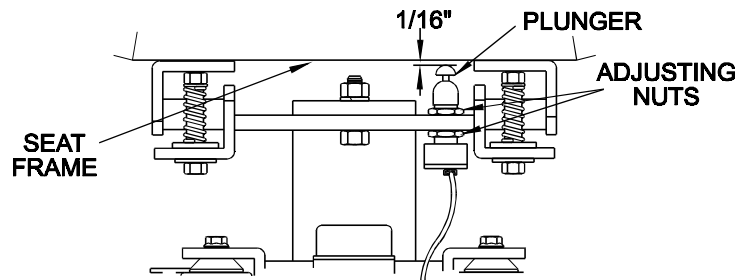

FIG. 11
- With operator out of seat, adjust the seat switch to provide a 1/16" clearance between the switch plunger and the seat frame (See Figure 11).